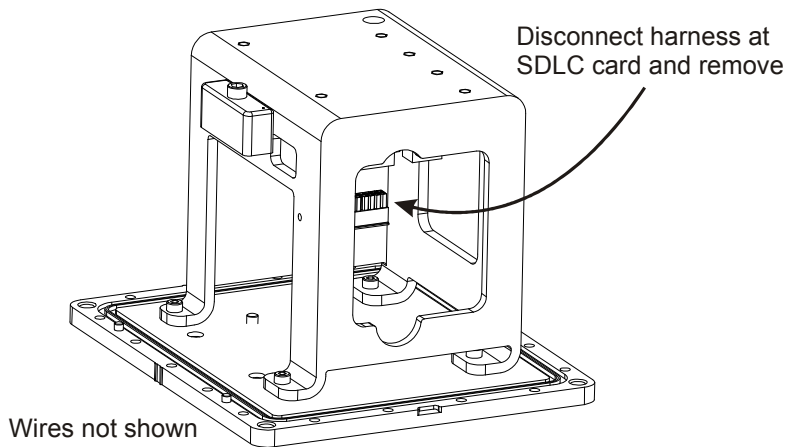

Figure 66: IMU Bracket
3. Lift the enclosure lid off the assembly to expose the IMU bracket, shown in *Figure 66*. Disconnect the harness at the SDLC card and remove.